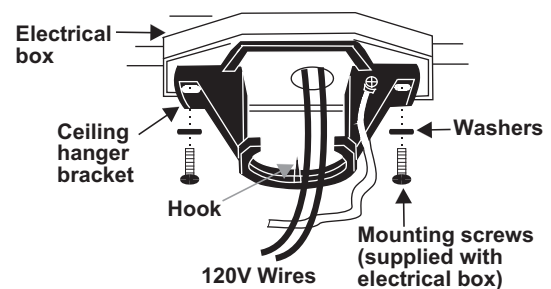

Figure 6
2. Secure the hanger bracket to the ceiling outlet box using screws and washers included with your outlet box. (Fig. 6)